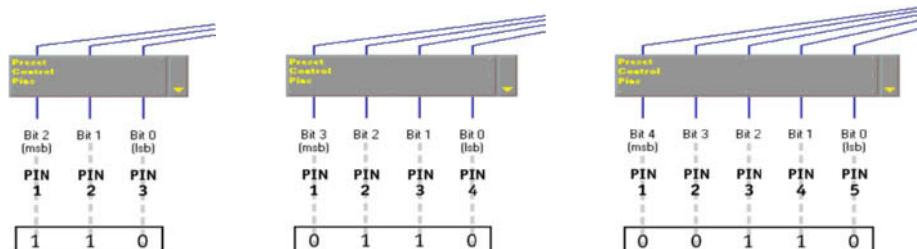

Figure 56 – Binary Encoding Preset #7 for Three, Four, and Five Pins
The most significant bit always corresponds to pin 1, and the least significant bit always corresponds to the highest pin number among those that are wired for preset control, as illustrated below in figure 56.
**Note:** For accurate preset switching at control input, the binary encoding for any preset must contain the same number of bits as there are control pins wired for preset encoding. Add zeros to the left of the binary value until there are the same number of numerals as there are control pins wired for preset encoding, as illustrated above in figure 56.